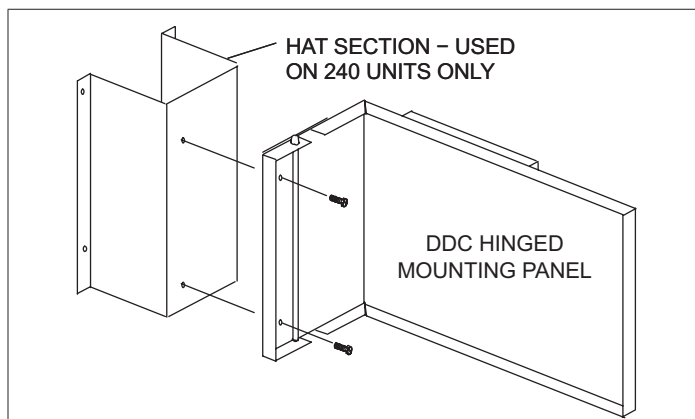

Figure 3. 240 Units – Attaching DDC Hinged Mounting Panel to Hat Section
5. 240 Units: Attach the hat section provided in the kit to the DDC assembly using two 5/8" screws (see figure 3.)